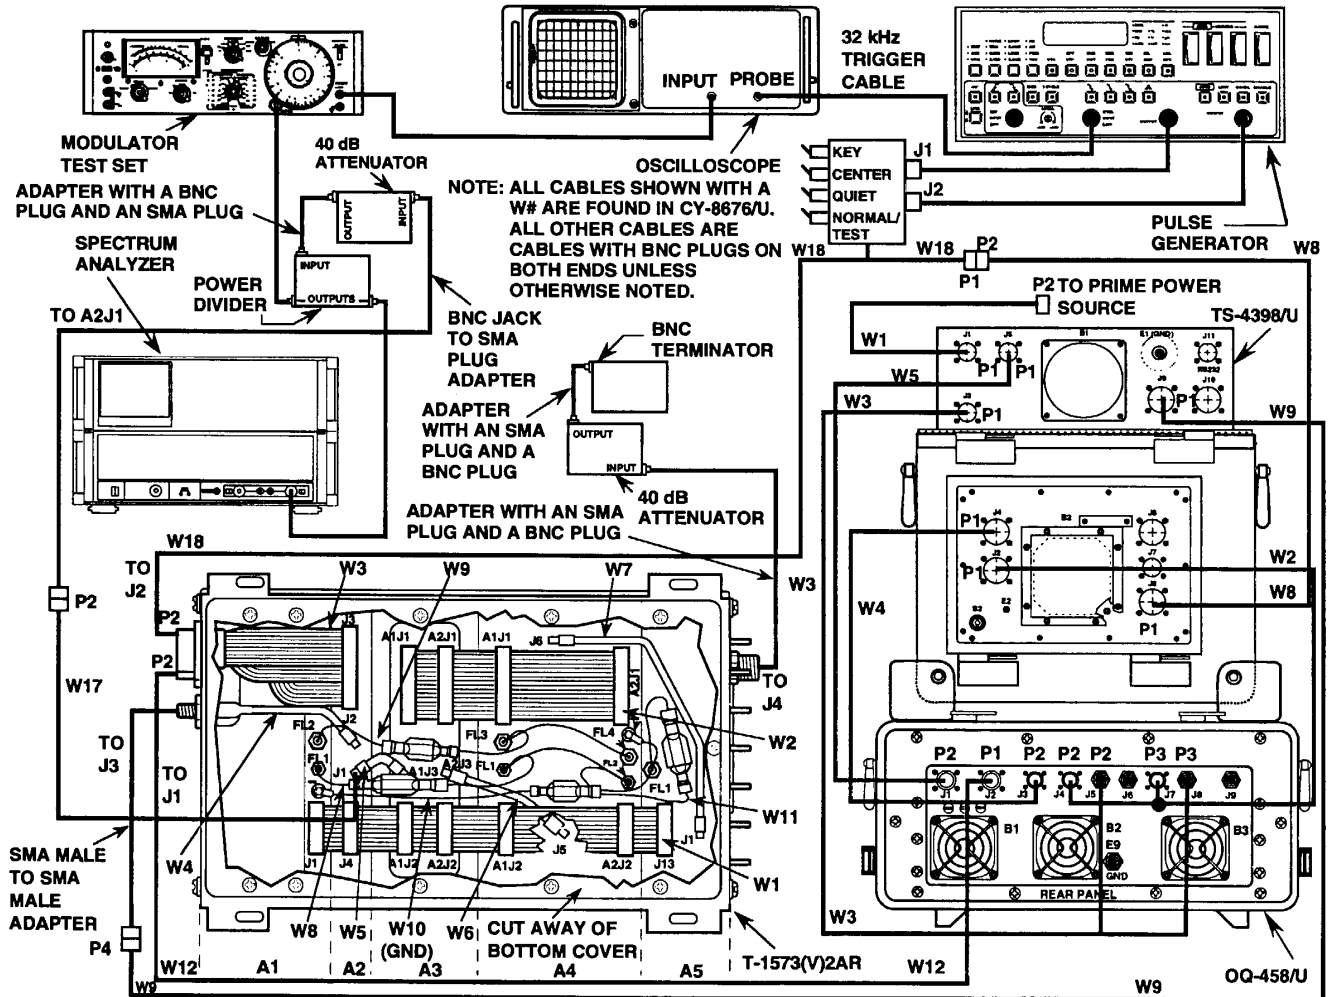

FIGURE 5-30. T-1573 (V) 2/AR INTERFACE CONTROL OUTPUT TEST INTERCONNECTIONS.
81.	Record the results from items 79 and 80.	<p>FOUR LEVEL TONE EYE PATTERN</p>
84.	Reconnect cable U6 to A3A2J3 (see figure 5-30).
88.	Set A2 ON/OFF to ON.	<p>The LED for +28 (AZ) is lit.</p>	<p>If the LED for +28 (A2) is not lit, then check cables for proper connections.</p> <p>If the LED for +28 (A2) is not lit after checking cables for proper connections, then perform the OQ-458/U power supply test (refer to paragraph 5-6.3.1).</p>